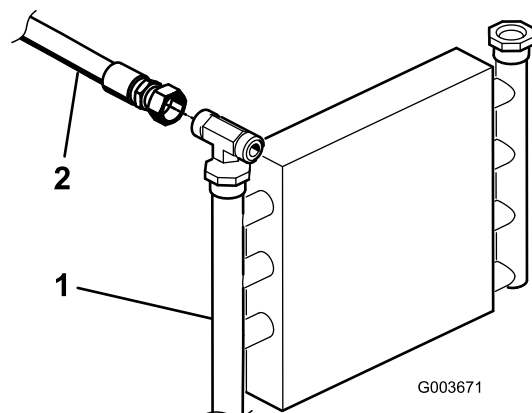

Figure 13
1. Locate the hydraulic tube that goes from the oil cooler to the existing lift valve (Figure 13). Remove the fasteners and tube clamp securing the hydraulic tubes to the frame.
2. Disconnect and remove the hydraulic tube from the oil cooler and the lift valve (Figure 13).